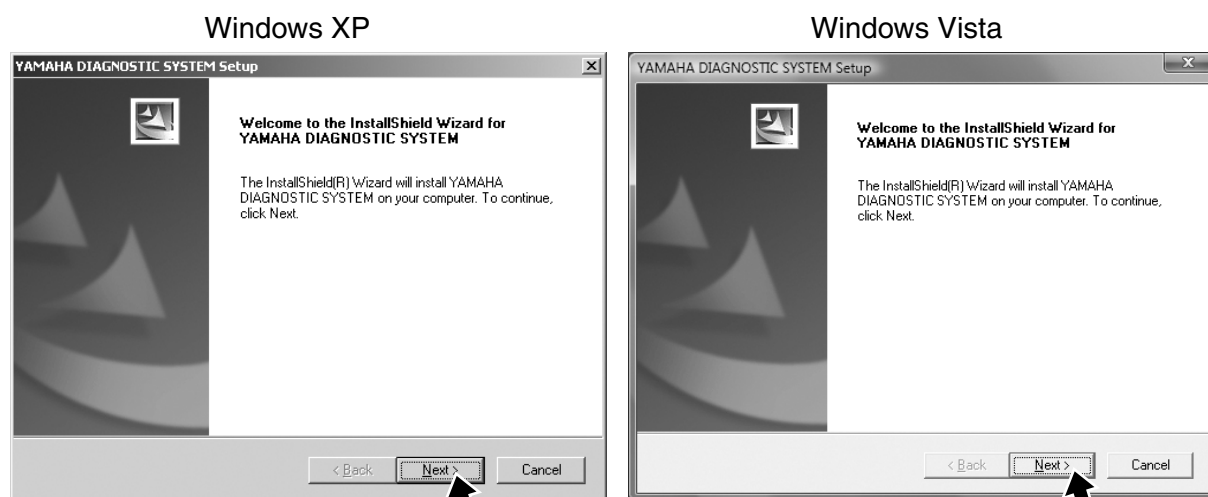

Fig. 3
- To quit the installation, click the **Cancel** button. The following dialog box appears. (See fig. 3.)